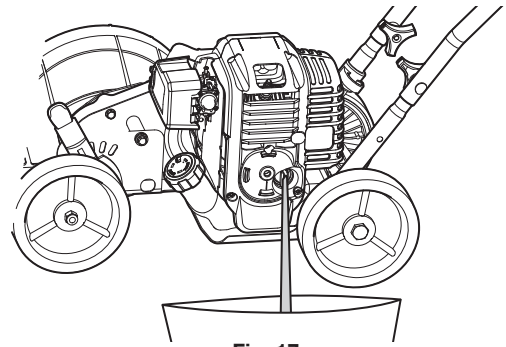

Fig. 17
- If the oil level is too high, tip the unit and drain the excess oil into an appropriate container (Fig. 17).
3. Tip the unit vertically to pour the oil out of the oil fill hole and into a container (Fig. 17). Allow ample time for complete drainage.